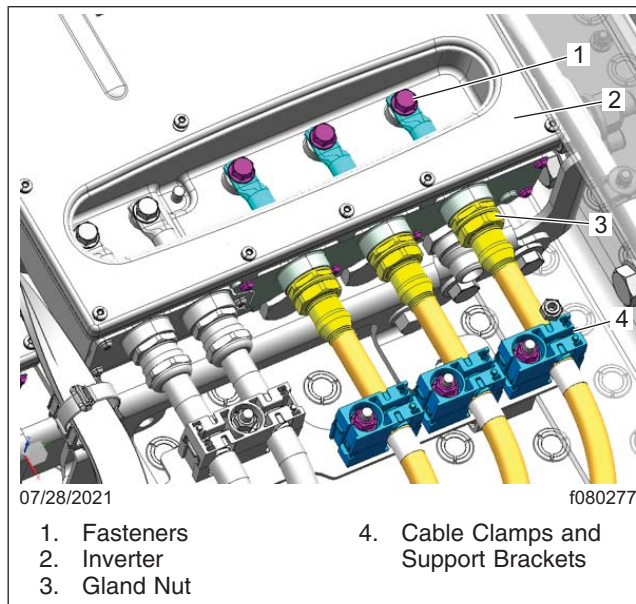
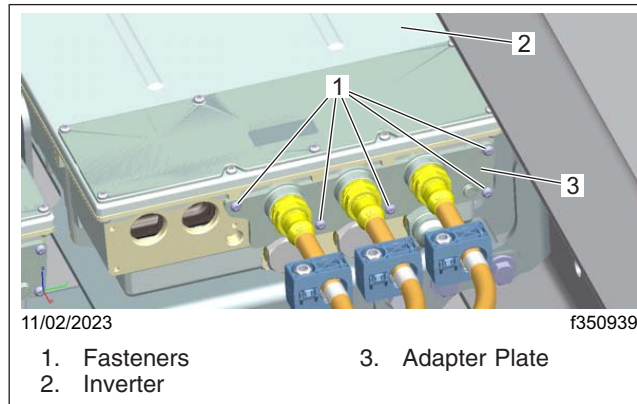

Fig. 4, Inverter Side HV Cables
Fig. 6, Fasteners on the Rear Side of the Inverter
11. Remove the HV cable clamps and the mounting fasteners from the HV cable support brackets. Then, remove the support brackets. See Fig. 4.
14. Remove the fasteners that secure the HV cables from the e-Axle to the rear side of the inverter. See Fig. 4 and Fig. 6.